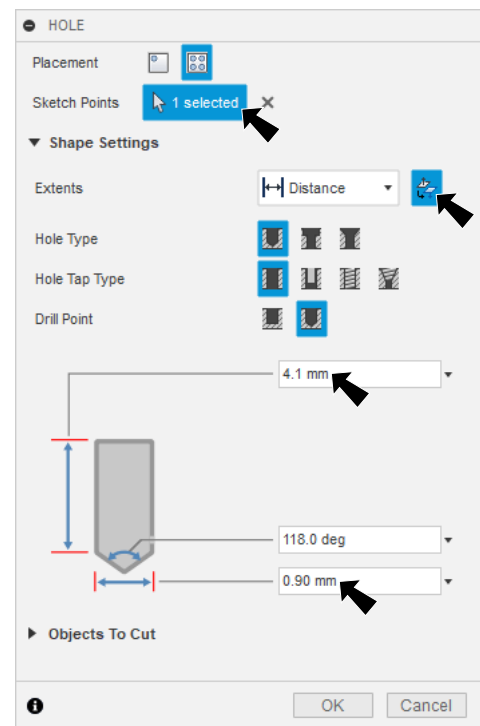

Fig. 33
Step 3. In the Hole panel set, **Fig. 33**